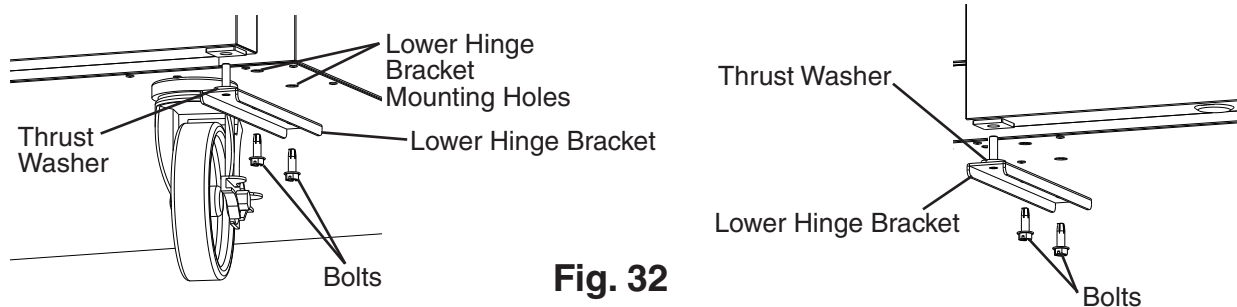

Fig. 32
- 12) Remove the lower hinge bracket. See Fig. 32. Be sure to leave the thrust washer in place.